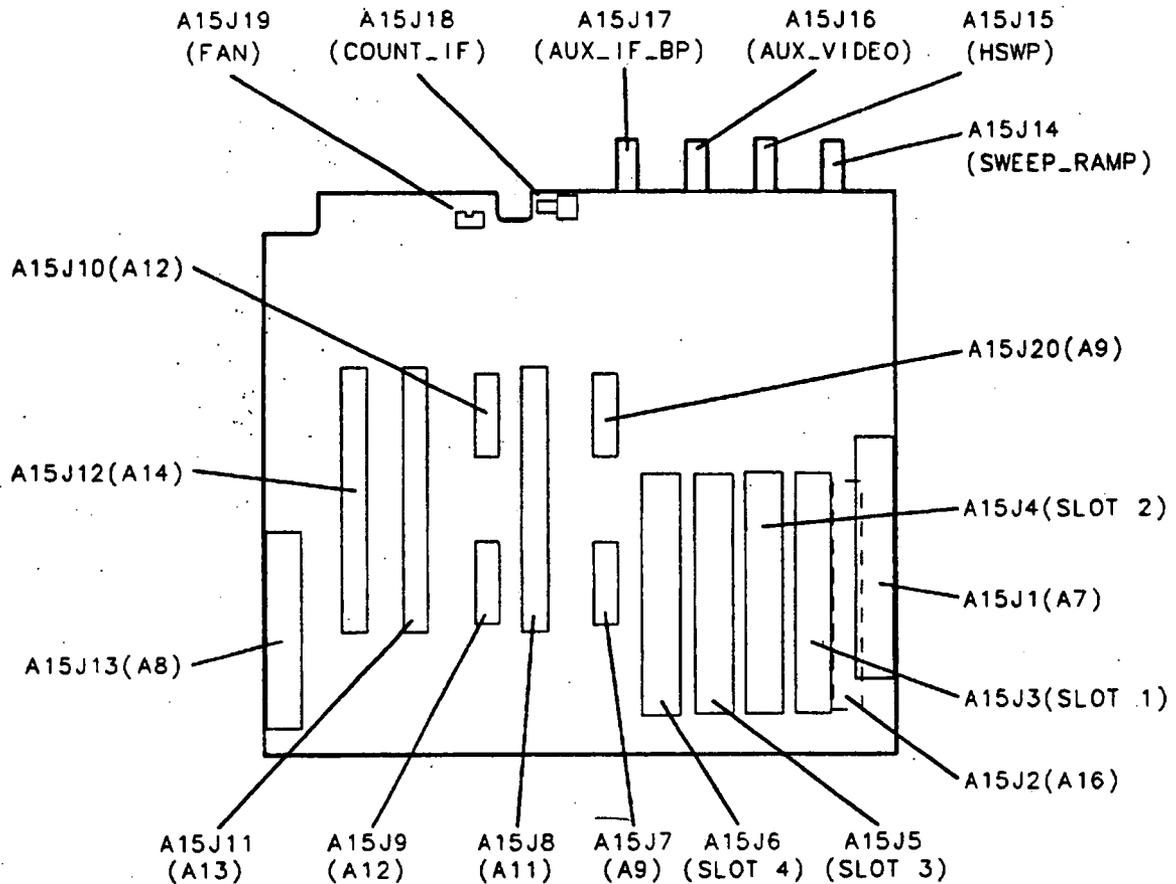

Figure 8-1. A15 Motherboard Connector Designation
- **Figure 8-1, A15 Motherboard Connector Designation.** Shows the location and reference designator for each connector on the motherboard.
Be sure to read the footnotes at the bottom of Figure 8-1.